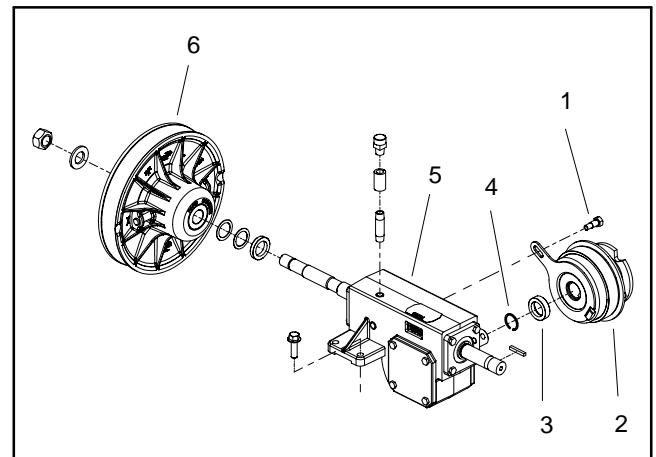

Figure 37
2. Remove cap screws, flat washers, lock nuts and spacers that secure rubber couplings to pump hub (item 22).
3. Remove lock nuts that secure clutch adapter (item 17) to electric clutch.
4. Slide drive coupler, rubber couplings and clutch adapter from machine as an assembly. Locate and retrieve two (2) spacers (item 16) from between clutch adapter and electric clutch.
7. Remove shoulder bolt that secures clutch leg to pump drive gearbox (Fig. 37).
8. Slide electric clutch from pump drive gearbox. Locate and remove spacer (item 18) from gearbox shaft. Note that spacer groove fits around retaining ring on gearbox shaft.
2. Place spacer (item 18) onto gearbox shaft. Make sure that spacer groove fits around retaining ring on shaft.
4. Install shoulder bolt through leg of clutch and into gearbox (Fig. 37). Tighten shoulder bolt. After shoulder bolt is tightened, make sure that leg of clutch does not bind on bolt.